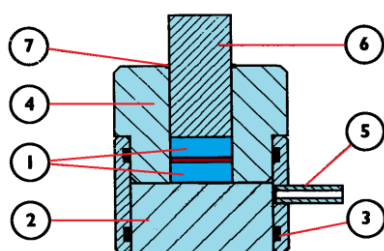
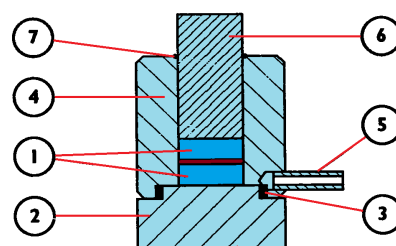

Figure 1.
Figure 2.
Assemble the die cylinder body (4) onto its appropriate base (2) as shown in Figures 1 and 2. Figure 1 is for the 5mm, 10mm and 13mm dies with a black support ring for the base (2), carrying the evacuation port (5). Figure 2 is for the larger dies of 20mm and above, including the evacuation port (5) as part of the die body.
Take the second stainless steel pellet (1) and push this (polished face first) into the bore of the cylinder body (4). Take care not to force or jam the pellet (1) in the bore. If it is placed centrally, it should sink down in the bore onto the surface of the powder. Insert the plunger (6), non- chamfered edge end first into the cylinder body (4). Ensure that the O-ring seal (7) is in place around the plunger and seated in the chamfer of the cylinder body (4) as shown in Figures 1 and 2. The die is now ready to be placed in the press for compaction of the sample powder.